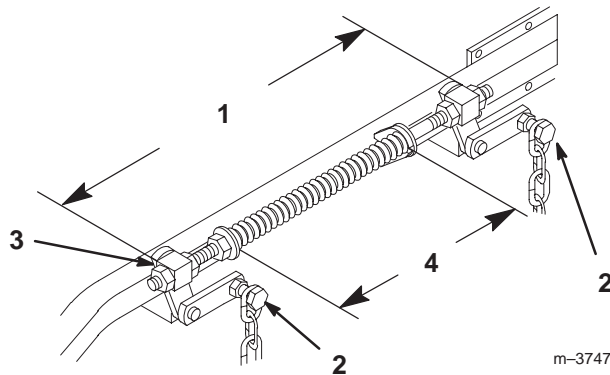

Figure 63
2. Check tire pressure of all four (4) tires. If needed, adjust to 13 psi (90 kPa)
4. Raise the deck to the transport position and take all force off of the two large deck lift springs by loosening nut in front of each spring (Fig. 63).
6. Loosen the four top chain bolts in slots. Check the length of the rod/swivel assemblies. Distance from outside of rear swivel to outside of front swivel should be 19–17/32 inch (496 mm) (Fig. 63). Make sure that all four swivels move freely in holes.
2. Springs are compressed so the distance between the two large washers should be 10–1/4 inch (260 mm) (Fig. 63).
3. Adjust by turning nut in front of each spring (Fig. 63). Clockwise will shorten spring, counter-clockwise will lengthen spring.